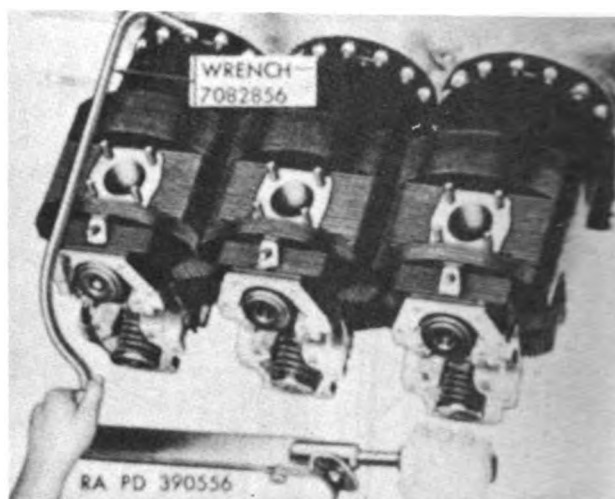

Figure 52. *Torquing cylinder holddown nuts.*
(2) Check torque of cylinder holddown nuts.
- (a) Using a torque wrench in combination with wrench 7082856 (fig. 52) on smaller hex holddown nuts,